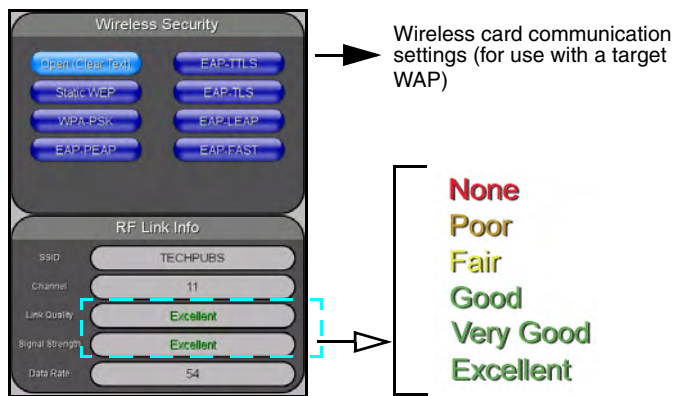

FIG. 12 Wireless Security section
1. Repeat the first four actions from the preceding Step 1 to open the Wireless Settings page and then locate the Wireless Settings section (FIG. 12).